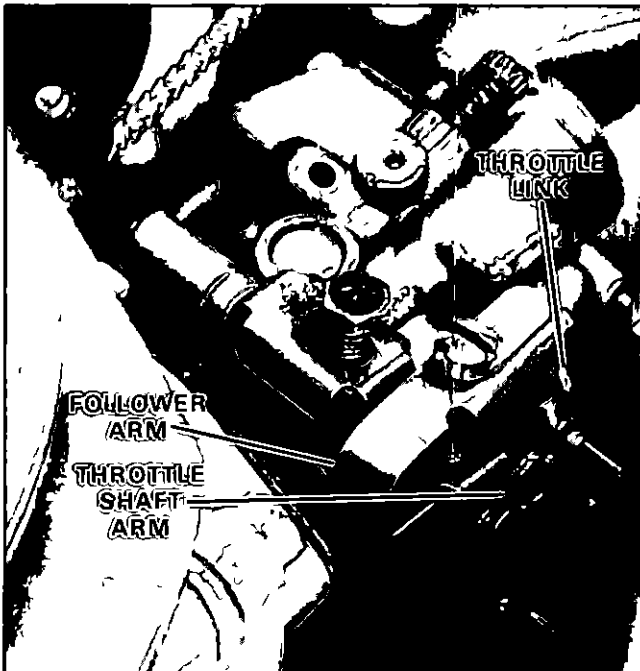

Figure 32 Installing Follower Arm to Cam Follower.
- C Install brass throttle link in hole of throttle shaft arm and in outer hole of follower arm and make sure link ends face out Then slide follower arm onto cam follower Figure 32